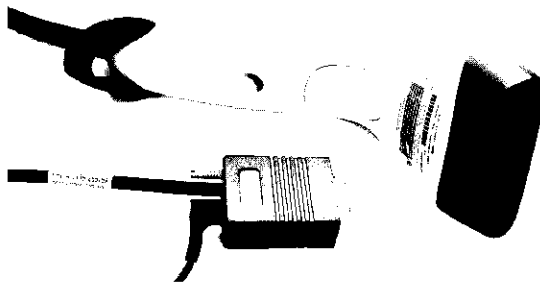

Figure 166: Serial connection
- If the connector on your scanner is the same as that shown in Figure 166, it has a serial connection and you must use the instructions in "configuring a serial ID scanner" on page 217.